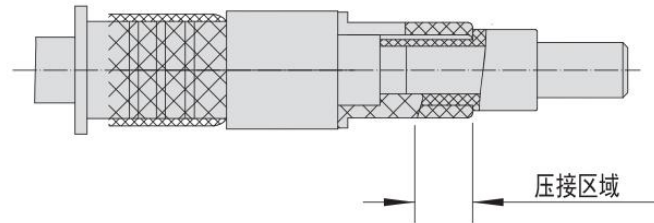

Figure 3.12
⑦ As shown in Figure 3.12, use the M22520 / 5-01 tool to crimp the middle pin contact, and use the stamping die Y631B (crimp the middle contact to the white wire.)